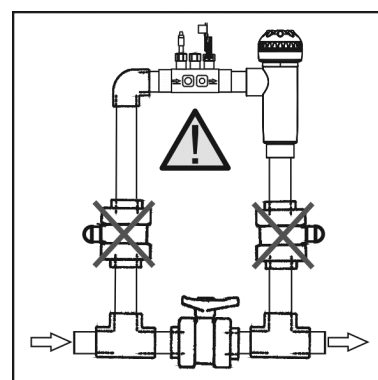

Fig. 4
1. Install the saddle in a section of the pipe at the entrance to the electrolysis cell. It should always be installed in a horizontal position relative to the ground (see Fig. 4).
1. Glue the sensor holder to a section of the pipe at the entrance to the electrolysis cell. It should always be installed in a horizontal position relative to the ground (see Fig. 4), so that the threaded inlets (1/2" - 3/8") are always accessible for the later installation of the dosage pump injector and the ground connection (optional).